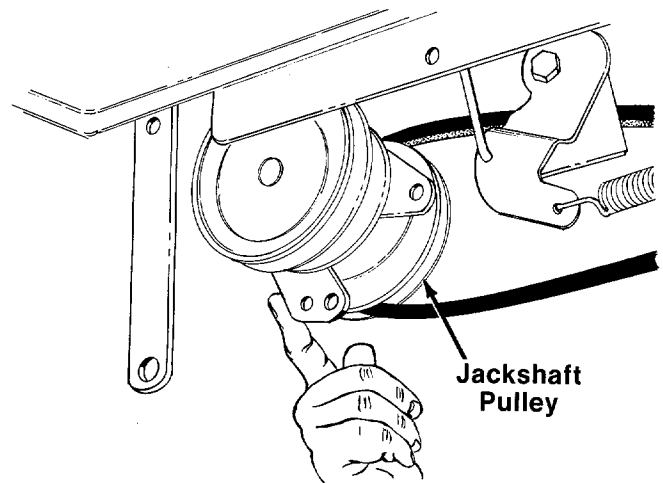

FIGURE 18.
2. Push forward on the jackshaft assembly, and slip the back of the belt at the jackshaft off the jackshaft pulley. See figure 18.